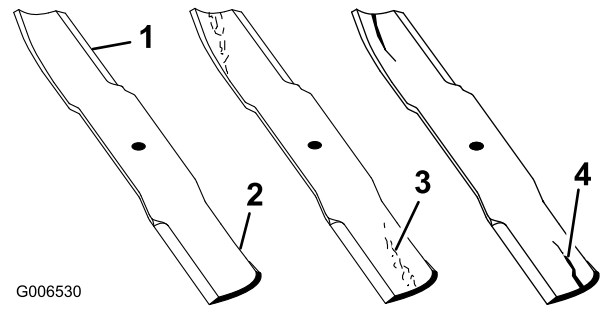

Figure 50
1. Inspect the cutting edges (Figure 50).
2. Inspect the blades, especially the curved area (Figure 50).
**Note:** If you notice any damage, wear, or a slot forming in this area (Figure 50), immediately install a new blade.